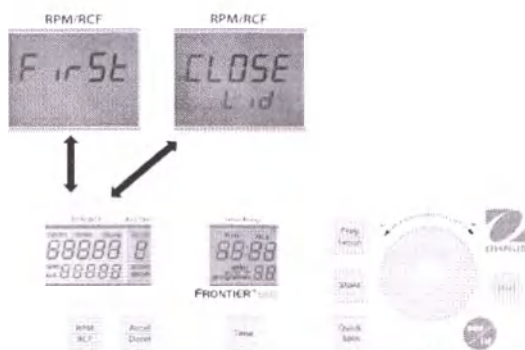
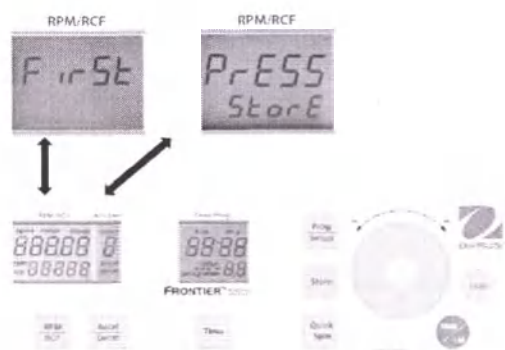

Figure 21
Figure 22
Close the lid of the centrifuge. Now proceed as described previously to set all important run parameters. If the lid isn't closed when storing the program, in the display **"RPM/RCF"** (A-1), the words **"FirSt"** and **"CLOSE Lid"** (See figure 21) flashes alternately. If you want to start the run without storing the program, in the display **"RPM/RCF"** (A-1), the words **"First"** and **"PrESS StoreE"** (See figure 22) flashes alternately.
For adaption of data press the key **"Store"** (2) (refer to figures 21 and 22) for approx. 1 second. If the program is stored correctly, the word **"StoreE"** appears in the display **"RPM/RCF"** (A-1). As a result, the word **"programm"** (M10) disappears.